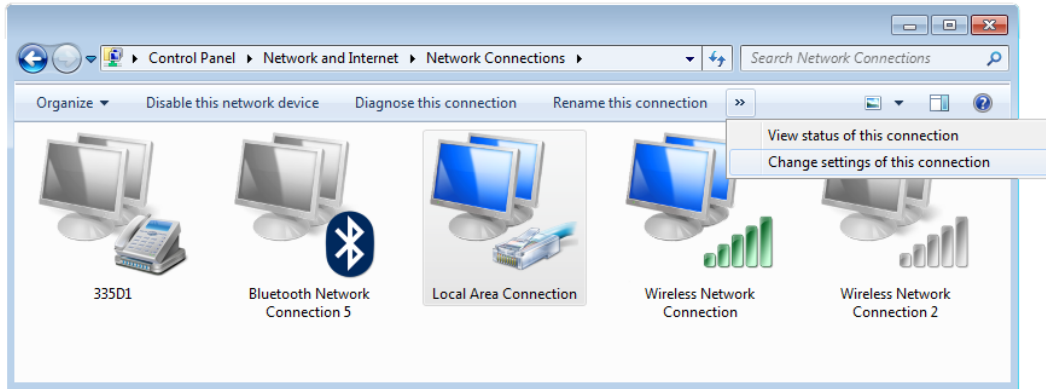

Figure 3-5: Selecting Wired Network Connection
2. Select the appropriate network connection (Local Area Connection or Wireless Network Connection) to configure, then select “Change settings of this connection” as shown in Figure 3-5.